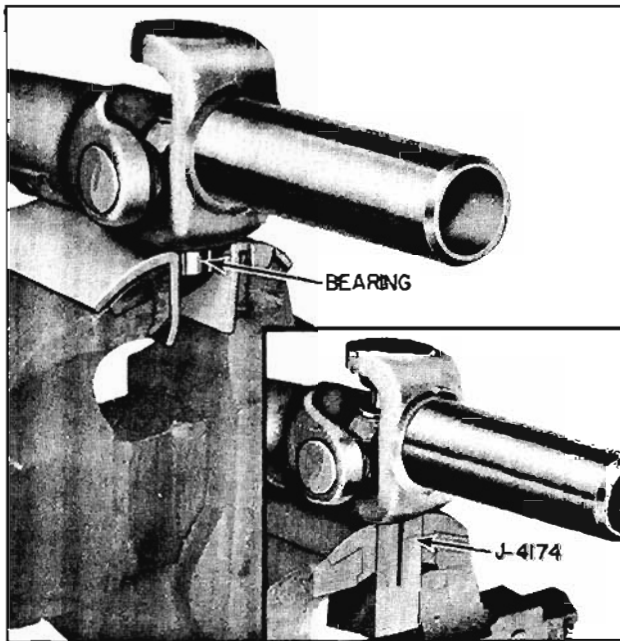

Fig. 10-4 Bearing Removal (Saginow)
4. Clamp the partially exposed bearing in a brass jawed vise, then tap yoke until bearing is removed. (Fig. 10-4) Remove bearing from vise.
NOTE: The use of Tool J-4174 will facilitate removal of bearings. (Inset, Fig. 10-4)